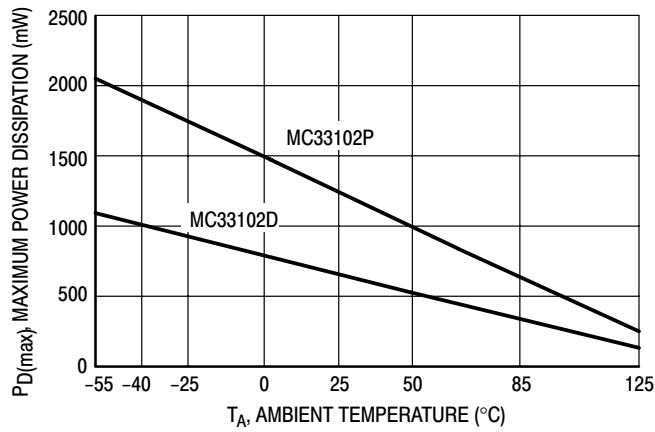

Figure 1. Maximum Power Dissipation versus Temperature
2. Power dissipation must be considered to ensure maximum junction temperature (T_J) is not exceeded (refer to Figure 1).